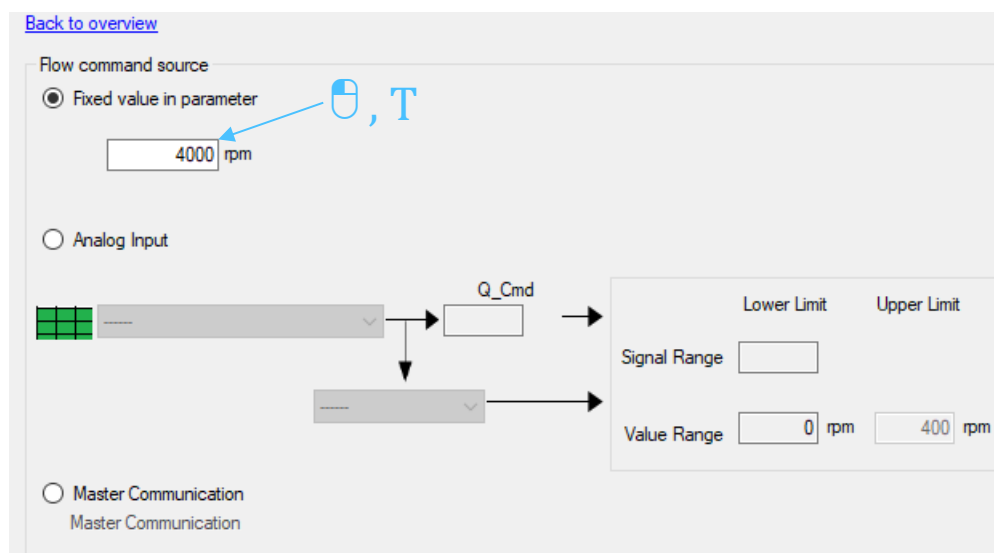

Abb. 27: Flow command value fixed 2/2
2. Enter the desired flow command value in the field below "Fixed value in parameter" (see Abb. 27: Flow command value fixed 2/2).